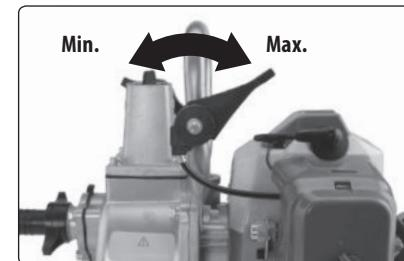

Fig. 5, lever positions for regulating the flow rate for min. and max.
- Set the power/rpm regulator to the position between minimum and maximum - depending on the required flow rate respecting the delivery height and suction depth, see fig. 5.